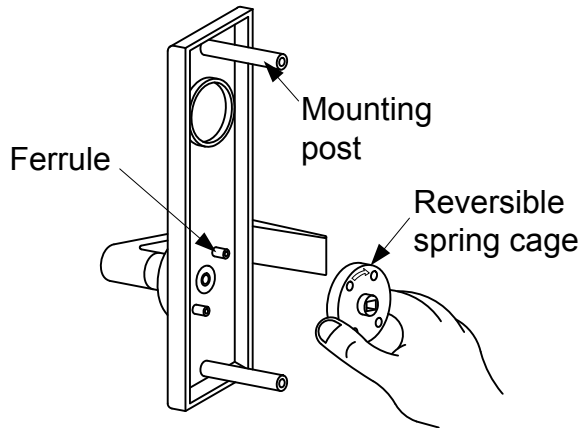

Fig 6-1
1. Check the direction of the outside lever to be installed, then place the reversible spring cage into ferrules with the arrow pointing in the direction of the lever rotation and fasten with screws supplied (Fig 6-1).